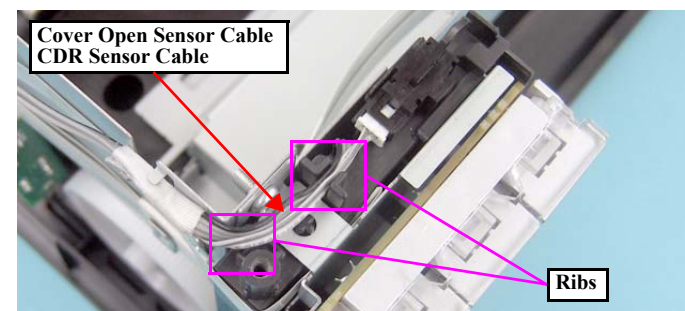

Figure 4-118. Installing the Panel Assy (1)
- As shown in Fig.4-118, route the CDR Sensor Cable and Cover Open Sensor Cable through the gap between the two ribs of the Open Sensor Holder.